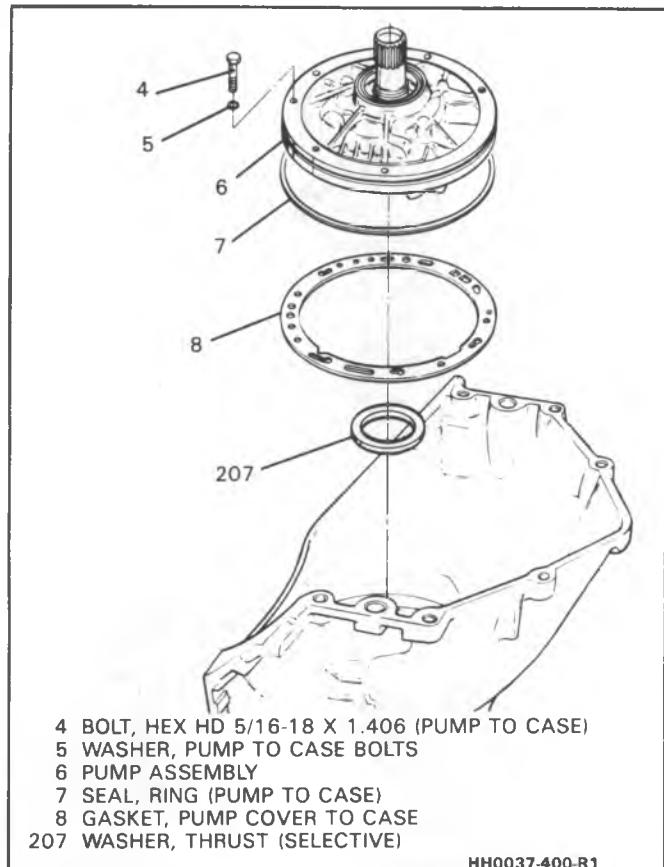

Figure 19 - Pump Assembly and Selective Thrust Washer
During reassembly Front End Play Check must be repeated to verify accuracy of selective thrust washer (207) Figure 19.